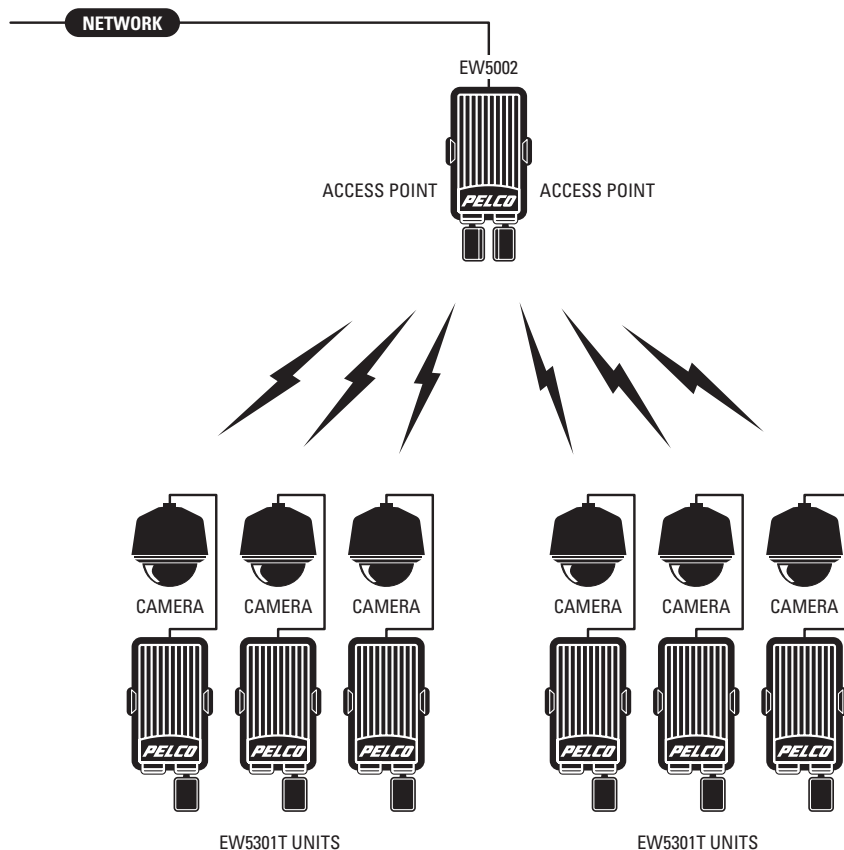

Figure 2. EW5002 Dual Access Point Configuration
- Access point: The EW5002 provides a wireless link from a cluster of EW5301T wireless video encoders to an Endura™ network in a point-to-multipoint configuration. It serves as a proprietary wireless network router (refer to Figure 2 on page 9). It supports all features that are available to the EW5301T, including automatic detection of PAL or NTSC, alarm inputs, relay outputs, activity detection, audio support, and pan/tilt/zoom (PTZ) camera control.
Figure 2 shows the EW5002 configured in dual access point (access point/access point) mode for two separate clusters of EW5301T video encoders.